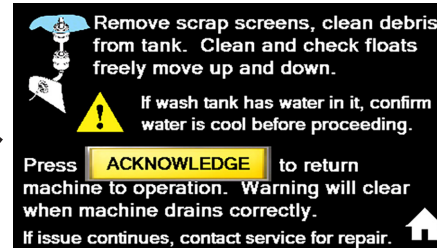

Fig.15a - Follow instructions on screen
2. Press the blinking  icon and an instruction screen will appear. Follow the instructions and press 'ACKNOWLEDGE', (Fig.15a).